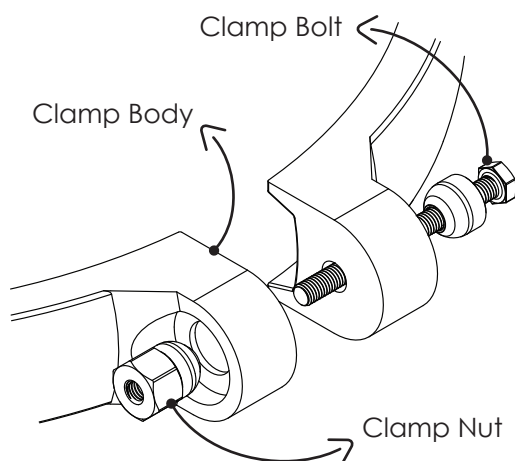

Figure 7
5. Using 3/4" wrenches or hex sockets, loosen and remove the Clamp Nut and the Clamp Bolt. (See Fig 7)